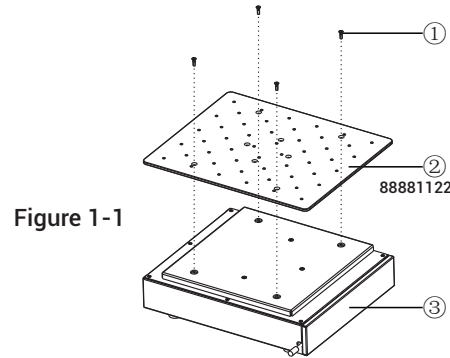

Figure 1-1
1. Place the instrument on a level and firm surface, it must be capable of supporting the weight and load of the instrument, and the impact force generated by the motion. Prepare related parts (see Figure 1-1).